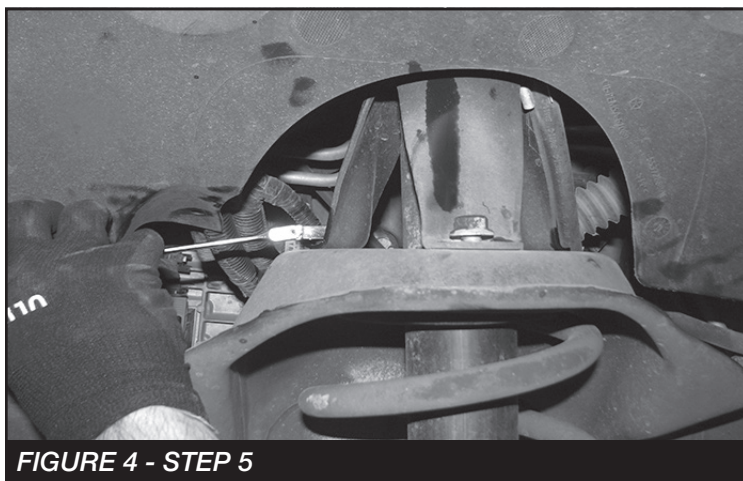

FIGURE 4 - STEP 5
5. Loosen the (3) upper shock tower nuts. Leave attached. **SEE FIGURE 4**